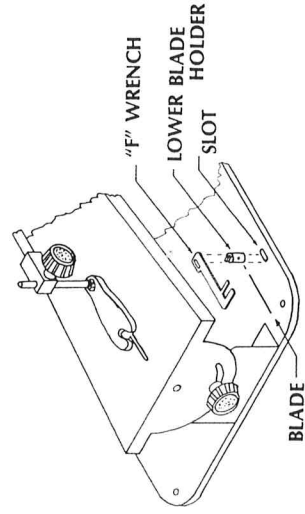

Fig. 8
Step 4: To remove the blade from the lower blade holder, place the blade holder on end in the oblong slot in the saw base. Using the “T” handle Allen wrench (or the “F” wrench), place the slot in the handle over the flats of the lower blade holder. Loosen the lower blade holder and remove the old blade, or any broken pieces (see fig. 8).